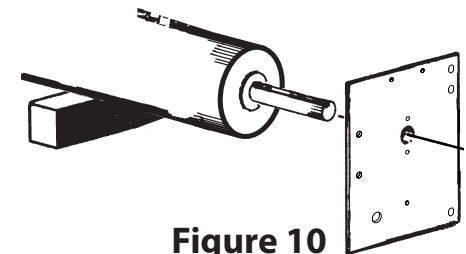

**Figure 9**
- Set barrel assembly on blocks or sawhorses so headplate brackets clear the floor. See Figures 9 and 10.
- Secure tension wheel to tension shaft, as shown in Figure 9.
- If Tension Wheel is 11" in diameter or larger, slide set collar next to Tension Wheel and secure to tension shaft, as shown in Figure 9.